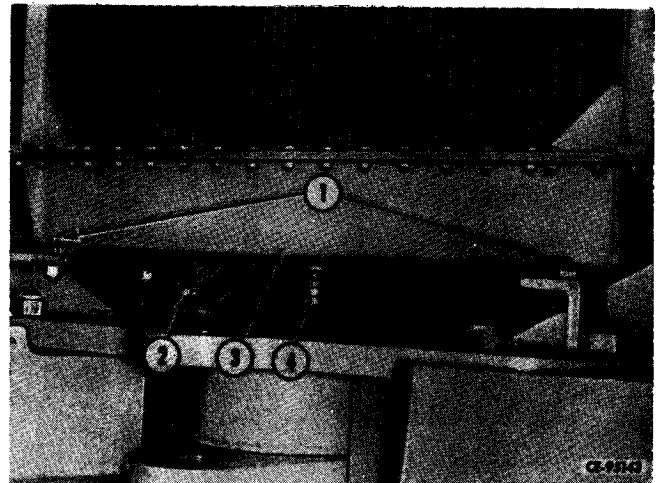

Figure 2-12
Close radiator petcock (4, Fig. 2-12). Loosen hose clamps (2) from bottom of radiator hose. Hose will disconnect when radiator is removed. With an overhead hoist attached, remove cap screws and nuts (1) and lower radiator to floor.